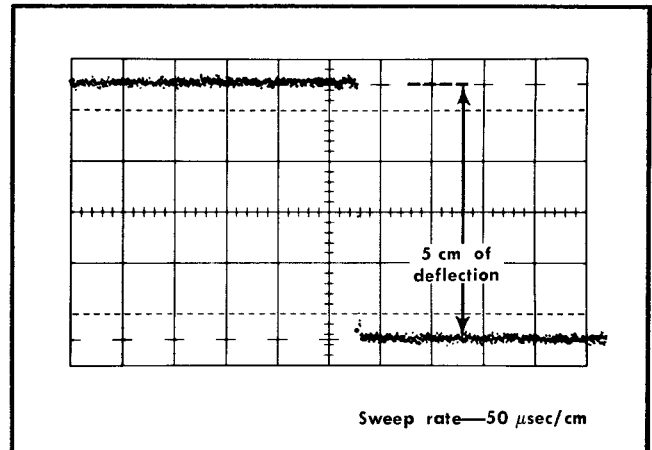

Fig. 2-5. Typical oscilloscope display for checking vertical deflection factor ($\pm 4\%$) with oscilloscope calibrator.
6. Check for 5 cm of vertical deflection (see Fig. 2-5). If the amount of error in the calibrator signal is known, check the display for a vertical deflection of 200 mv/cm.